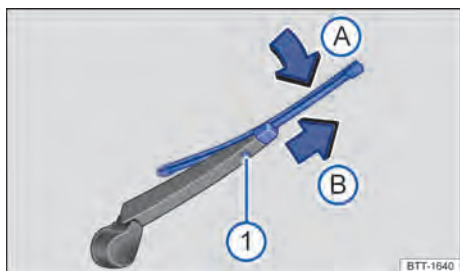

Fig. 171 At the rear of the vehicle: changing the rear window wiper blade.
① Release button.
2. Press and hold the release button → Fig. 171 ①.
3. Tilt the wiper blade in the direction of the wiper arm → Fig. 171 A and pull it off in the direction of the arrow B at the same time. You may need to use some force to do this.
4. Insert a new wiper blade of the same length and type onto the wiper arm in the opposite direction of the arrow → Fig. 171 B and push it on until it engages. The wiper blade must be in folded-down position to do this A.